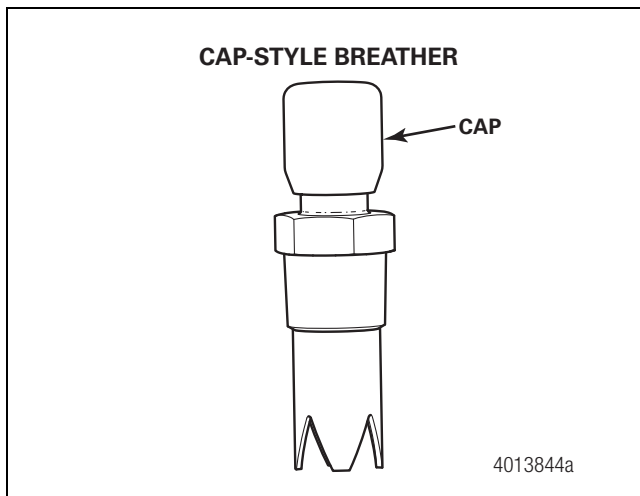
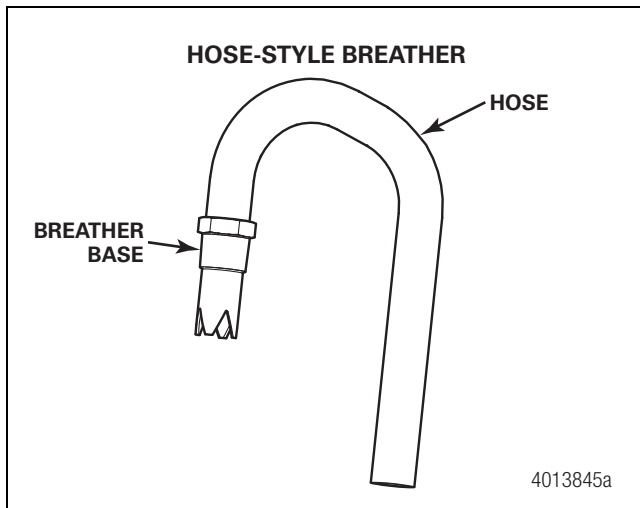

Figure 4.1
Figure 4.2
4. Check the breather for a missing cap or hose. Replace the breather if parts are missing. Figure 4.1 and Figure 4.2.